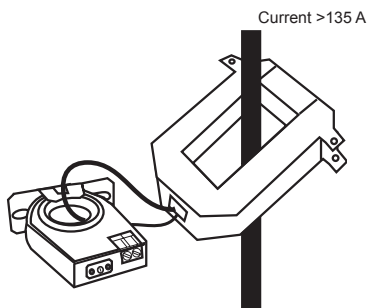

Figure 5: CSS with CT Transformer
Use a 5 A Current Transformer (CT) to reduce the current passing through the CSS as shown in Figure 5. Run the current transformer secondary wire through the sensing hole. Terminate the two secondary wires of the 5 A current transformer to each other, and then install the 5 A current transformer on the conductor being monitored.